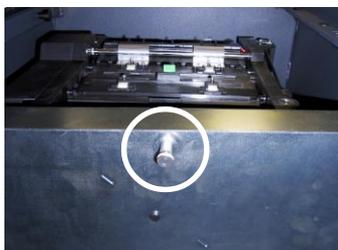

Figure 4-3. Pull release pin for swivel platform.
4. To gain access to the cassettes, rotate the mechanism mounting platform to the service position. To do this, locate the spring-loaded locking pin on the underside of the slide tray. This pin lets you lock the dispenser's swivel mounting platform into half-turn access positions. (Figure 4-3)